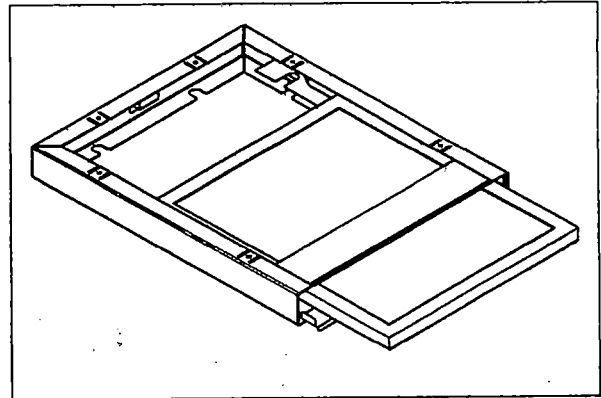

Fig. 1 - Slide filter out of filter frame.
Step 1 - Open the filter box door and slide the filter out of the filter frame. (Fig. 1)